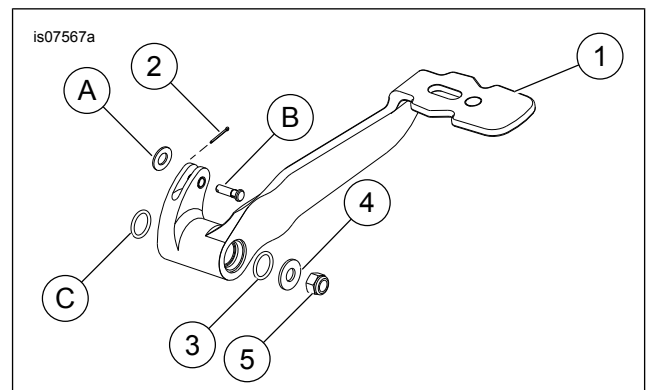

Figure 1. Service Parts: Rear Brake Lever (Typical Shown)
See Figure 1 and Table 1.
1. See Figure 1. Remove the cotter pin and washer (A) from the master cylinder clevis pin. Discard the cotter pin.
1. See Figure 1. Insert new O-rings (3) on either side of the lever bushings. Install the new billet style brake lever (1) onto the shaft.
2. Align the holes in the lever and brake rod and insert the stock clevis pin (B).
3. Install the small saved flat washer onto the clevis pin. Insert the new cotter pin (2).
4. Install the large flat washer (4) and locknut (5) from the kit. Tighten the locknut to 20–27 N·m (15–20 ft-lbs).